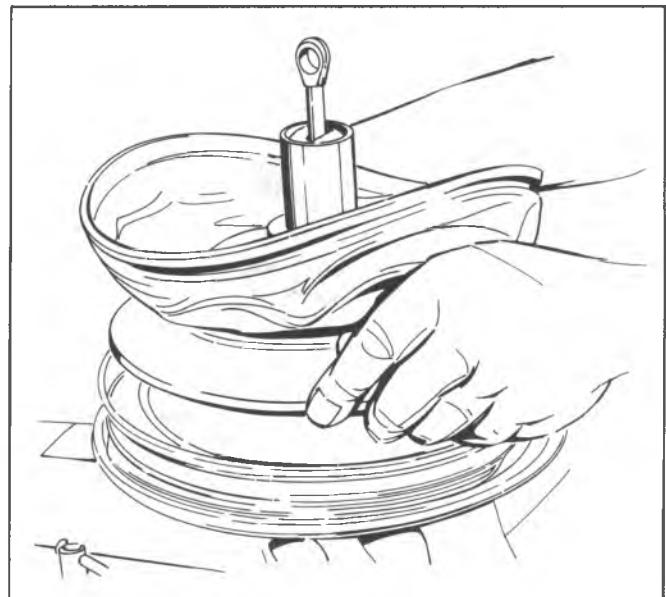

Fig. 5-5A--Locking or Unlocking Primary and Secondary Power Pistons
will temporarily lock the primary support plate to the primary power piston and permit continued counter-clockwise rotation to unscrew the primary power piston from the secondary power piston (fig. 5-5A).
34. Grip the edge of the primary support plate, press down, and start the threads on the secondary power piston into the threaded portion of the primary power piston by rotating in clockwise direction (fig. 5-5A).